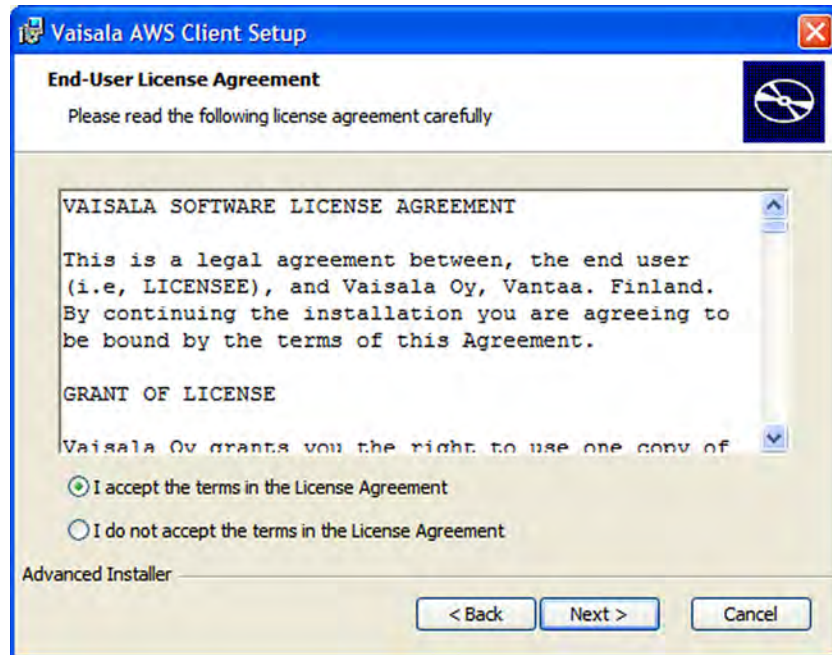

Figure 14 License Agreement Window
3. The **License Agreement** window shown in Figure 14 on page 38 is displayed next. Read the license agreement and accept it. Select **Next** to continue the installation.